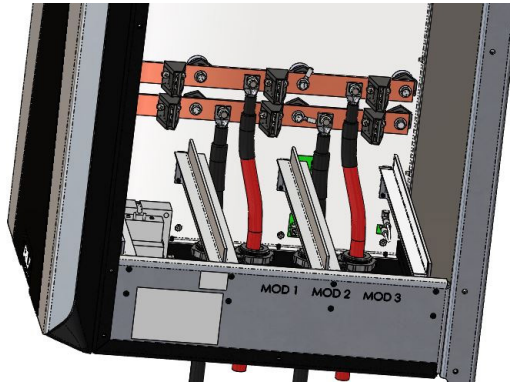

Figure 1: Output Connector Bolts
7. See Figure 1. Using a socket wrench, remove bolts from the output cable connections.
9. See Figures 1 and 3. Inside the cabinet, loosen the strain relief nut for the Comm cable and pull the cable until you can access the ferrite filter. Remove the snap-on ferrite filter from the Comm cable.
10. See Figures 1 and 4. The strain relief nuts are permanently attached to their respective cables. To remove the cables, unscrew the nuts holding them to the cabinet from inside the cabinet.
16. Bolt output cables and two ring terminals to filter standoffs, red-to-red and black-to-black. See Figure 1. Torque to 72 lb-in \pm 7 lb-in.